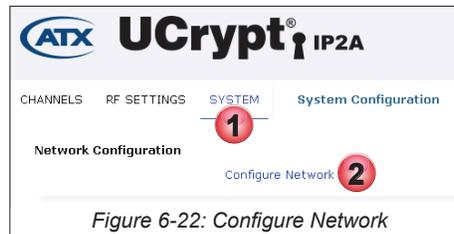

Figure 6-22: Configure Network
1. Click the **System** Tab if it isn't already selected, Figure 6-22.